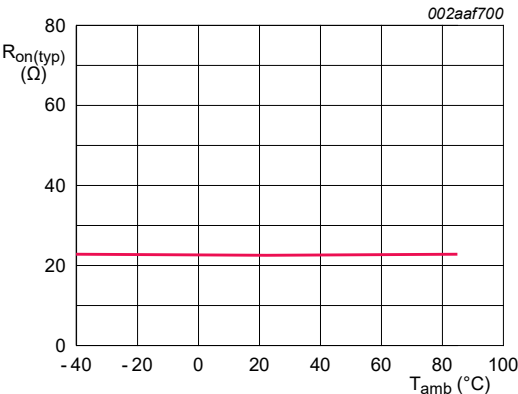

Figure 15. Typical ON-state resistance versus ambient temperature ($I_O = 15\text{ mA}$; $V_I = 1.7\text{ V}$; $V_{I(EN)} = 2.3\text{ V}$)
- [4] See curves in Figure 12 to Figure 15 for typical temperature and V_{I(EN)} behavior.